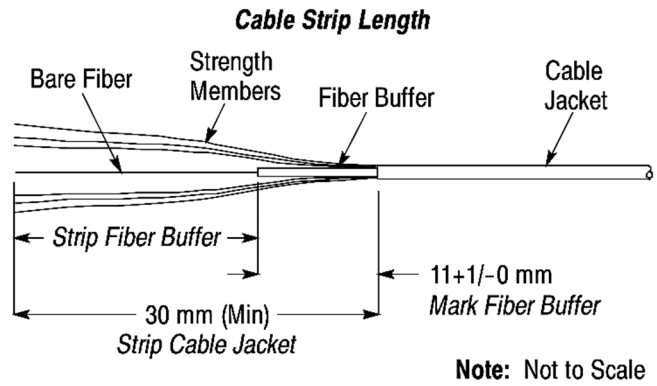

Figure 3
2. Using the cable jacket strip tool, strip the jacket of each cable to the dimension shown in Figure 3, exposing the strength members and fiber buffer. Mark the fiber buffer from the stripped end of the jacket to the dimension shown in Figure 3, then using the fiber stripping tool, strip the fiber buffer from the mark to the end of the fiber buffer, exposing the bare fiber.